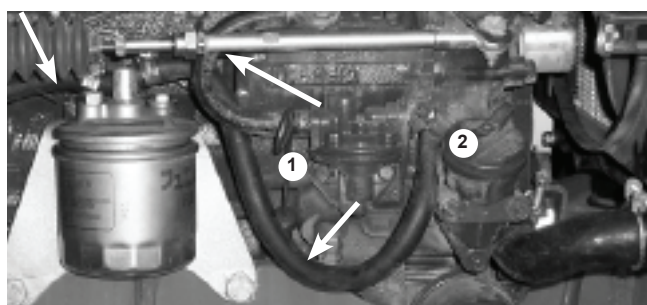

Figure 7.5 - Engine Oil Level
Keep the oil level between the marks on their dipstick (1) and add oil at the filter (2) as required (see figure 7.5).